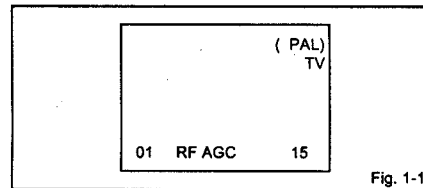

Fig. 1-1
2. Press the VOL. DOWN button on the set and the channel button (9) on the remote control for more than 2 seconds to display adjustment mode on the screen as shown in Fig. 1-1.
3. Activate the adjustment mode display of Fig. 1-1 and press the channel button (13) on the remote control to select "VCO COARSE".
4. Activate the adjustment mode display of Fig. 1-1 and press the channel button (01) on the remote control to select "RF AGC".